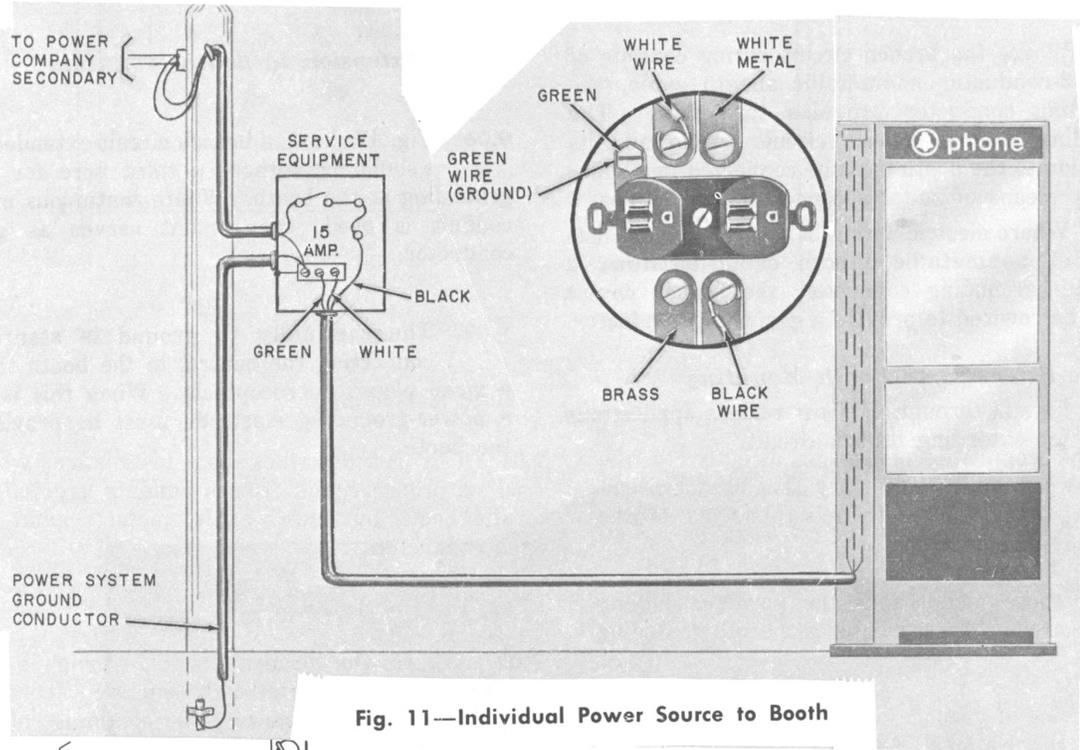

Fig. 11—Individual Power Source to Booth
8.01 Refer to Fig. 11 and 12 for this type service. Similar installations may have the fuse and cutout switch mounted on an adjoining post or wall, on the booth/mounting, or on a service mast.